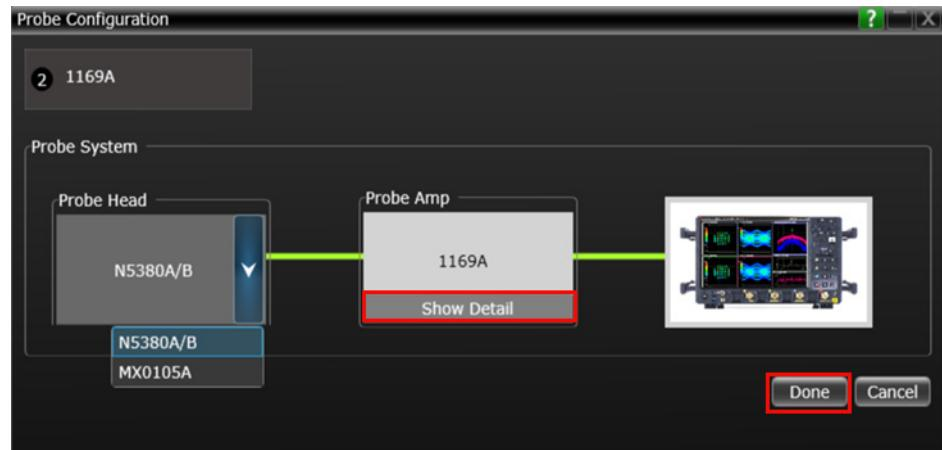

Figure 1-23 Probe Configuration Window
- Select the indicated probe in the Probe Head. Click **Done** after selecting the connected head model for the scope as shown in Figure 1-23. InfiniiMax probe provides S-parameter correction for probe amp and probe head. Selecting correct probe model numbers will ensure flat frequency response and more accurate measurement result with the probe.